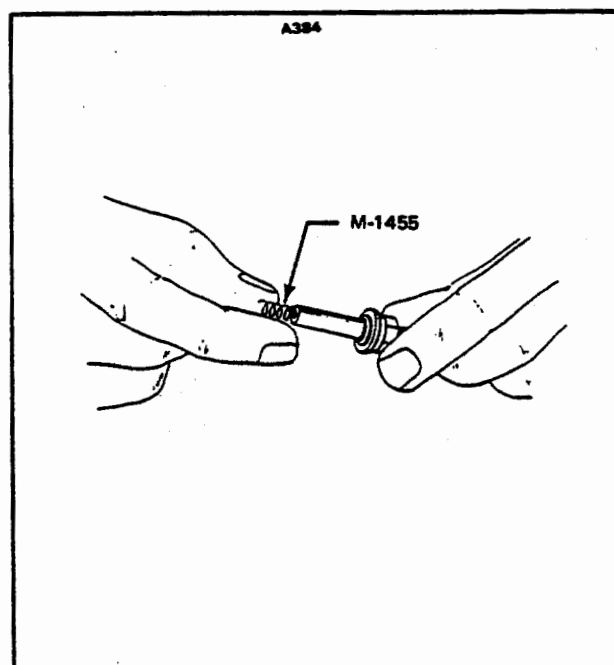

Figure 8-33. Installation of Spring
- o. Turn M-1455 Spring clockwise on the electrode screw three full turns until the end is flush with the first large coil of the spring. This applies to both ends of the wire. Refer to Figure 8-33.